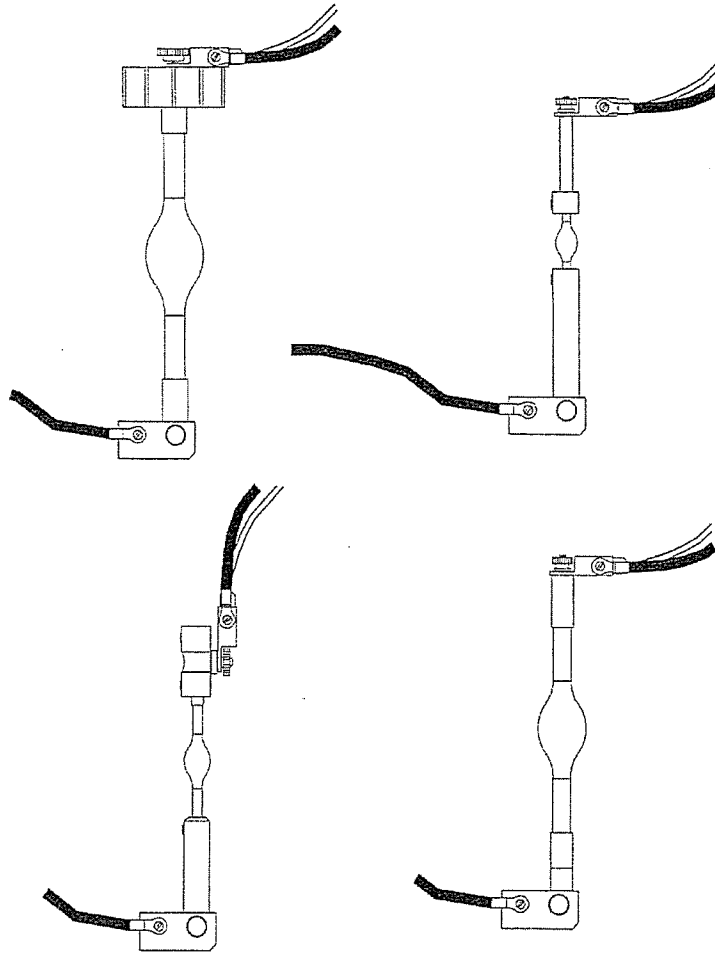

Figure 4: Typical lamp adapter configurations
- Install the appropriate adapter(s) on the lamp terminal(s). Depending on the lamp type, these socket adapters are fastened to the lamp terminals by set screws or by a threaded connection. Refer to Figure 4 for typical adapter configurations.
- Connect the sensor block assembly on the top hanging lead to the top adapter, using either the knurled nut supplied with the lamp, or the hardware supplied with the adapter. Refer to Figure 4 for typical connection information.